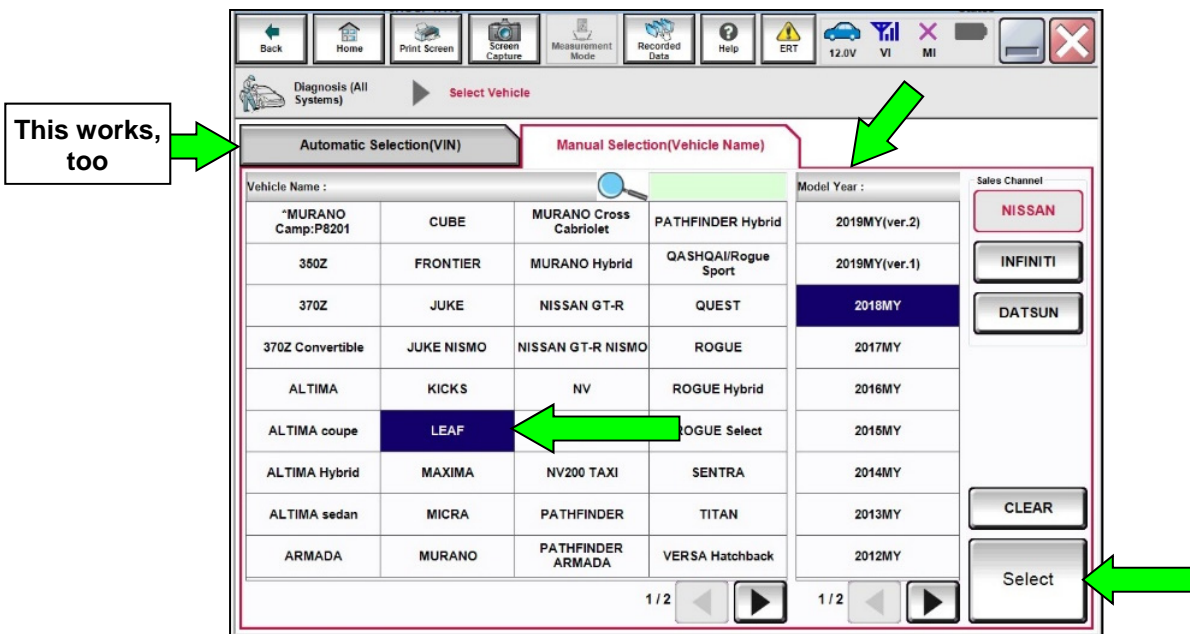

Figure 4
- If the screen in Figure 4 does not display, skip to step 12 on page 5.